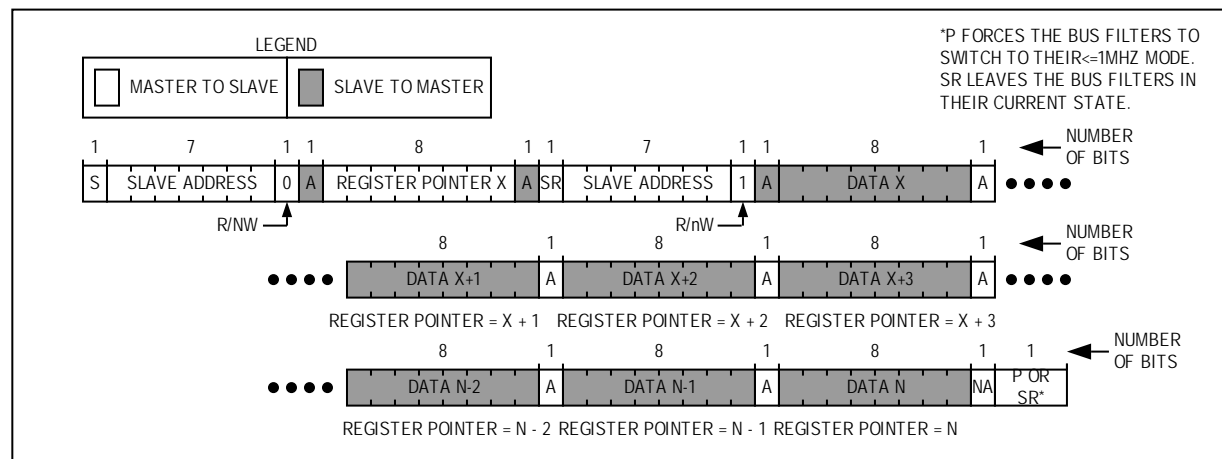

Figure 9. Reading from multiple registers.
Figure 9 shows the protocol for reading from sequential registers. This protocol is similar to the read-byte protocol, but with this one, the master issues an acknowledge to signal the slave that it wants more data. When the master has all the data it requires, it issues a not-acknowledge (nA) and a STOP (P) to end the transmission.